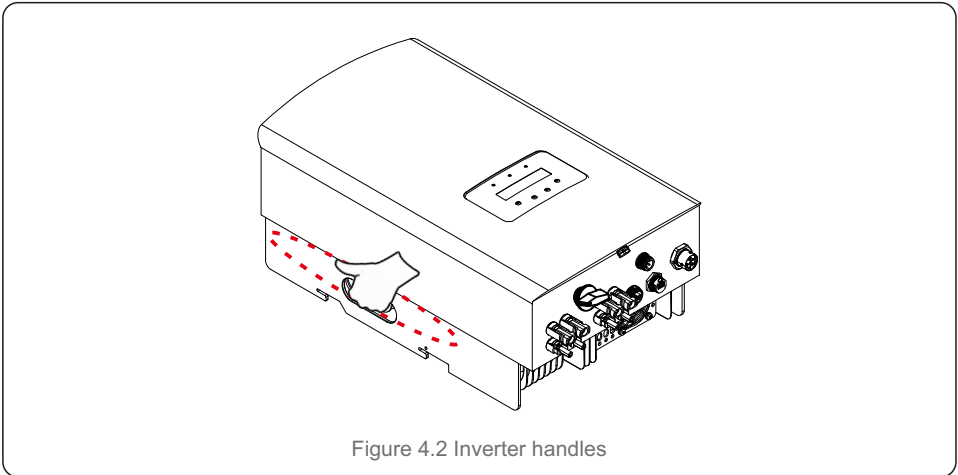

Figure 4.2 Inverter handles
- 2.Open the carton, then handle both sides of inverter through the area denoted dotted line. (see figure 4.2).